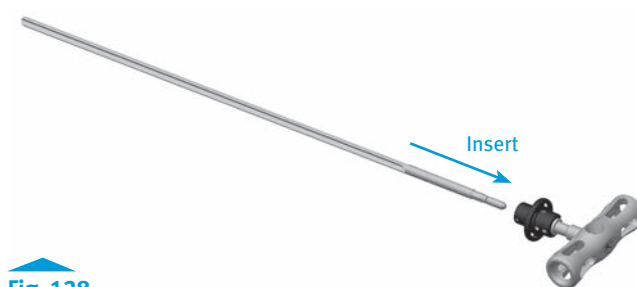

Fig. 128
- Insert the Femoral IM Rod into the Modular T-Handle (Fig. 128) and insert the IM-Rod into the femur far enough to ensure the most accurate replication of the anatomic axis, then remove the Modular T-Handle (Fig. 129).